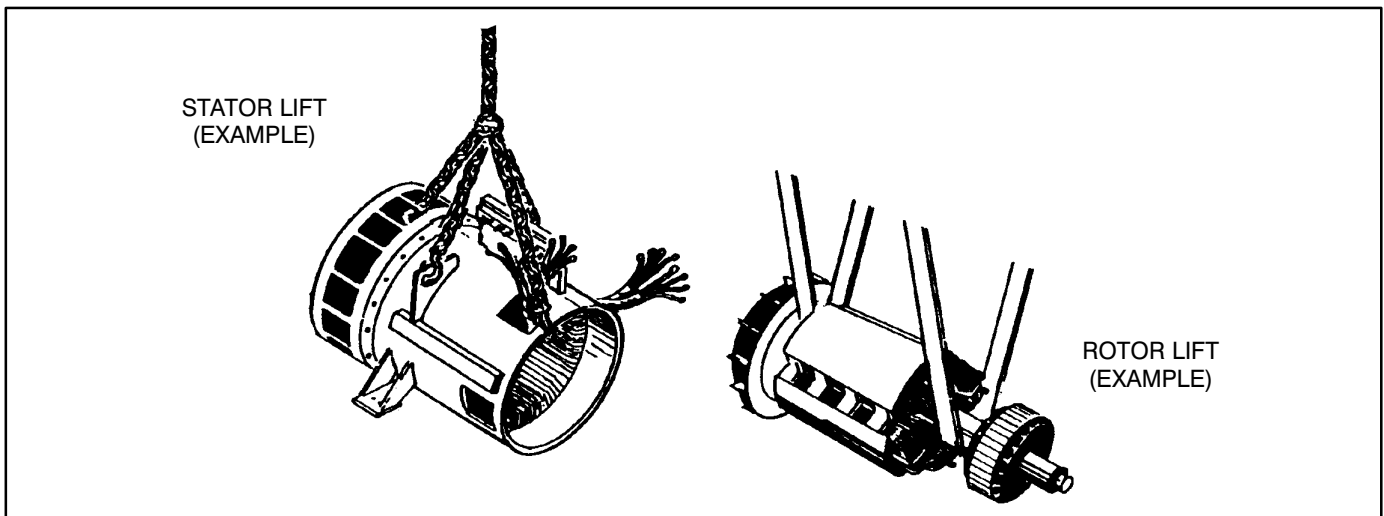

FIGURE 4-9. STATOR/ROTOR LIFT EXAMPLE
23. Reposition or add hoist and sling support for the main rotor, and remove the forklift. See Figure 4-9, Rotor Lift detail.